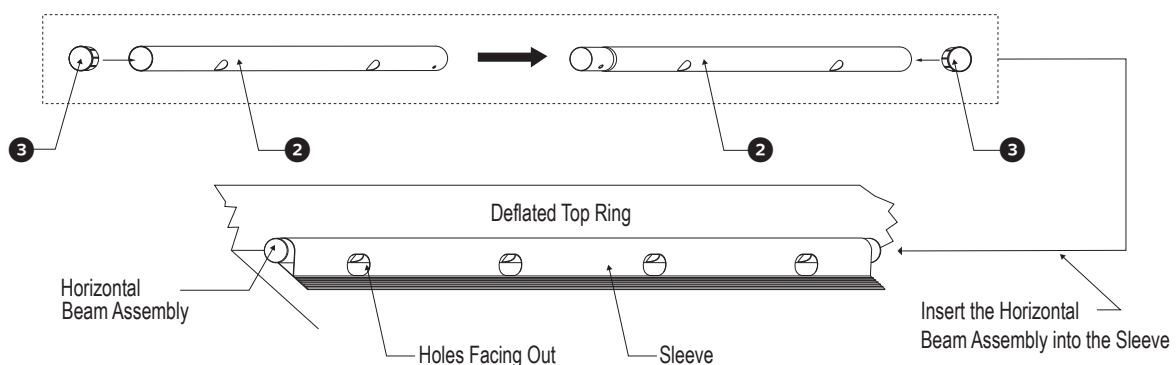

FIG. 2
7. Take out all four Horizontal Beams ❹. For each pair of beams, press down the lock buttons, insert the swaged beam into the plain beam, and slightly rotate until the buttons click in place. Then tap to secure the four plastic Beam Plugs ❺ onto the ends of the two Horizontal Beam Assemblies. Now locate the sleeves stitched along the long sides of pool. Slide one Horizontal Beam Assembly into each sleeve, holes on the beam and on the sleeve aligned as in Fig. 2.